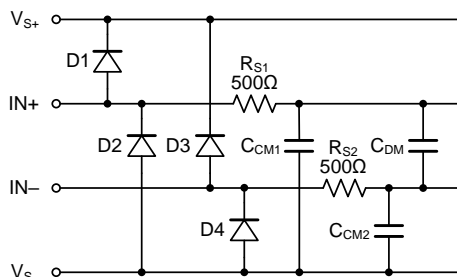

Figure 1. Input EMI Filter and Clamp Circuit
Figure 1 shows the input EMI filter and clamp circuit. The LTC8721/LTC8722/LTC8723 comparators have
Infrared (IR) communication is inherently immune to RF interference as long as there is a line-of-sight path between the transmitter and the receiver. It is also one of the lowest cost communication schemes. This makes it a good choice for implementing wireless communications in applications such as utility metering. A common system topology to extend battery life is to use a power efficient IR receiver analog front end (AFE) that is always on and wakes up the host only when there is a valid IR signal detected as shown in Figure 1.
Figure 1 shows the IR receiver system block diagram. The host MCU is normally in the shutdown mode (during which the quiescent current is less than 1 μ A) except when data is being transferred.